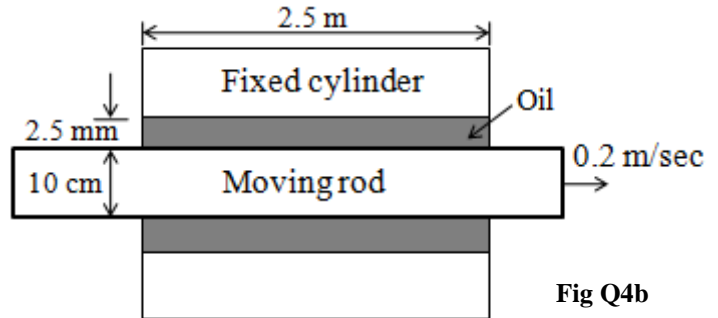

Fig Q4b
- A 10 cm diameter rod (Fig Q4b) is pulled steadily at 0.2 m/s through a 2.5 m long fixed cylinder whose clearance of 2.5 mm filled with a lubricating oil of density $\rho = 870 \text{ kg/m}^3$ and viscosity $\mu = 0.1 \text{ Pa-sec}$. Estimate the force required to pull the rod, using the velocity distribution deduced in part-(ii).